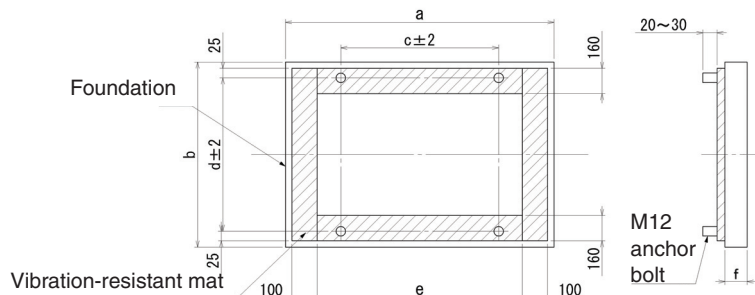

Fig. 8 Foundation diagram (mat foundation)
- When installing the outdoor unit, be sure to use the specified size of anchor bolts (shown in Fig. 8) and anchor the unit security. Failure to do so may result in the outdoor unit tipping over, causing gas leakage and personal injury.